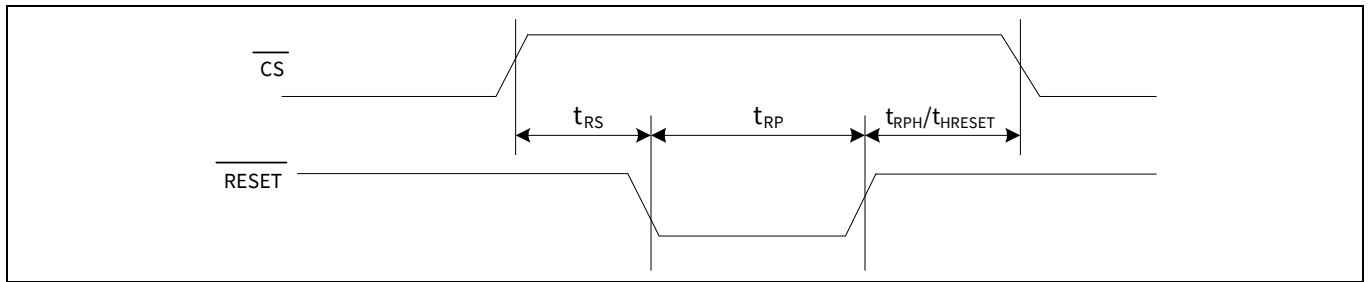
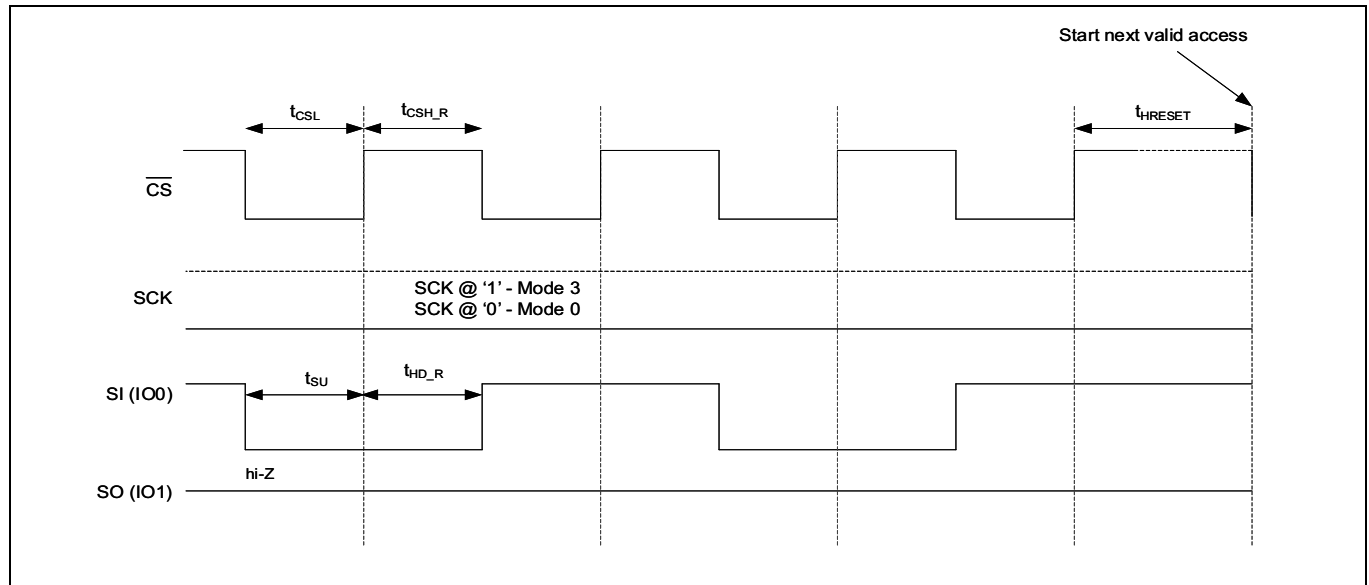

Figure 109 **RESET** timing - SPI with Quad set (CR1[1]='1') or QPI enabled (CR2[6]='1')
Figure 111 JEDEC SPI reset
The hardware reset input ($\overline{\text{RESET}}$) is multiplexed on ($\overline{\text{RESET}}$ / (I/O3) and is an active LOW signal in CY15x204QSN device. Refer to Table 21 for hardware reset ($\overline{\text{RESET}}$) pin configurations across various SPI interfaces. When $\overline{\text{RESET}}$ is pulled LOW, CY15x204QSN self initializes and brings its configuration back to the power up status. See Table 59 for different registers configuration after $\overline{\text{RESET}}$ cycle. Once $\overline{\text{RESET}}$ is issued, CY15x204QSN takes $t_{\text{RPH}}/t_{\text{HRESET}}$ time from $\overline{\text{RESET}}$ rising edge to complete the reset cycle. CY15x204QSN becomes inaccessible during t_{RPH} time. Figure 109 to Figure 111 show the $\overline{\text{RESET}}$ timings in different reset mode.
- The $\overline{\text{RESET}}$ pin is multiplexed on I/O3 in the QPI mode. When using the hardware ($\overline{\text{RESET}}$) in QPI mode, the CR2 [5] bit must be set to '1' to enable to use I/O3 as $\overline{\text{RESET}}$ input when CS is HIGH. Figure 109 shows the $\overline{\text{RESET}}$ / (I/O3) timing in QPI mode.
Refer to Figure 111 for timing details.